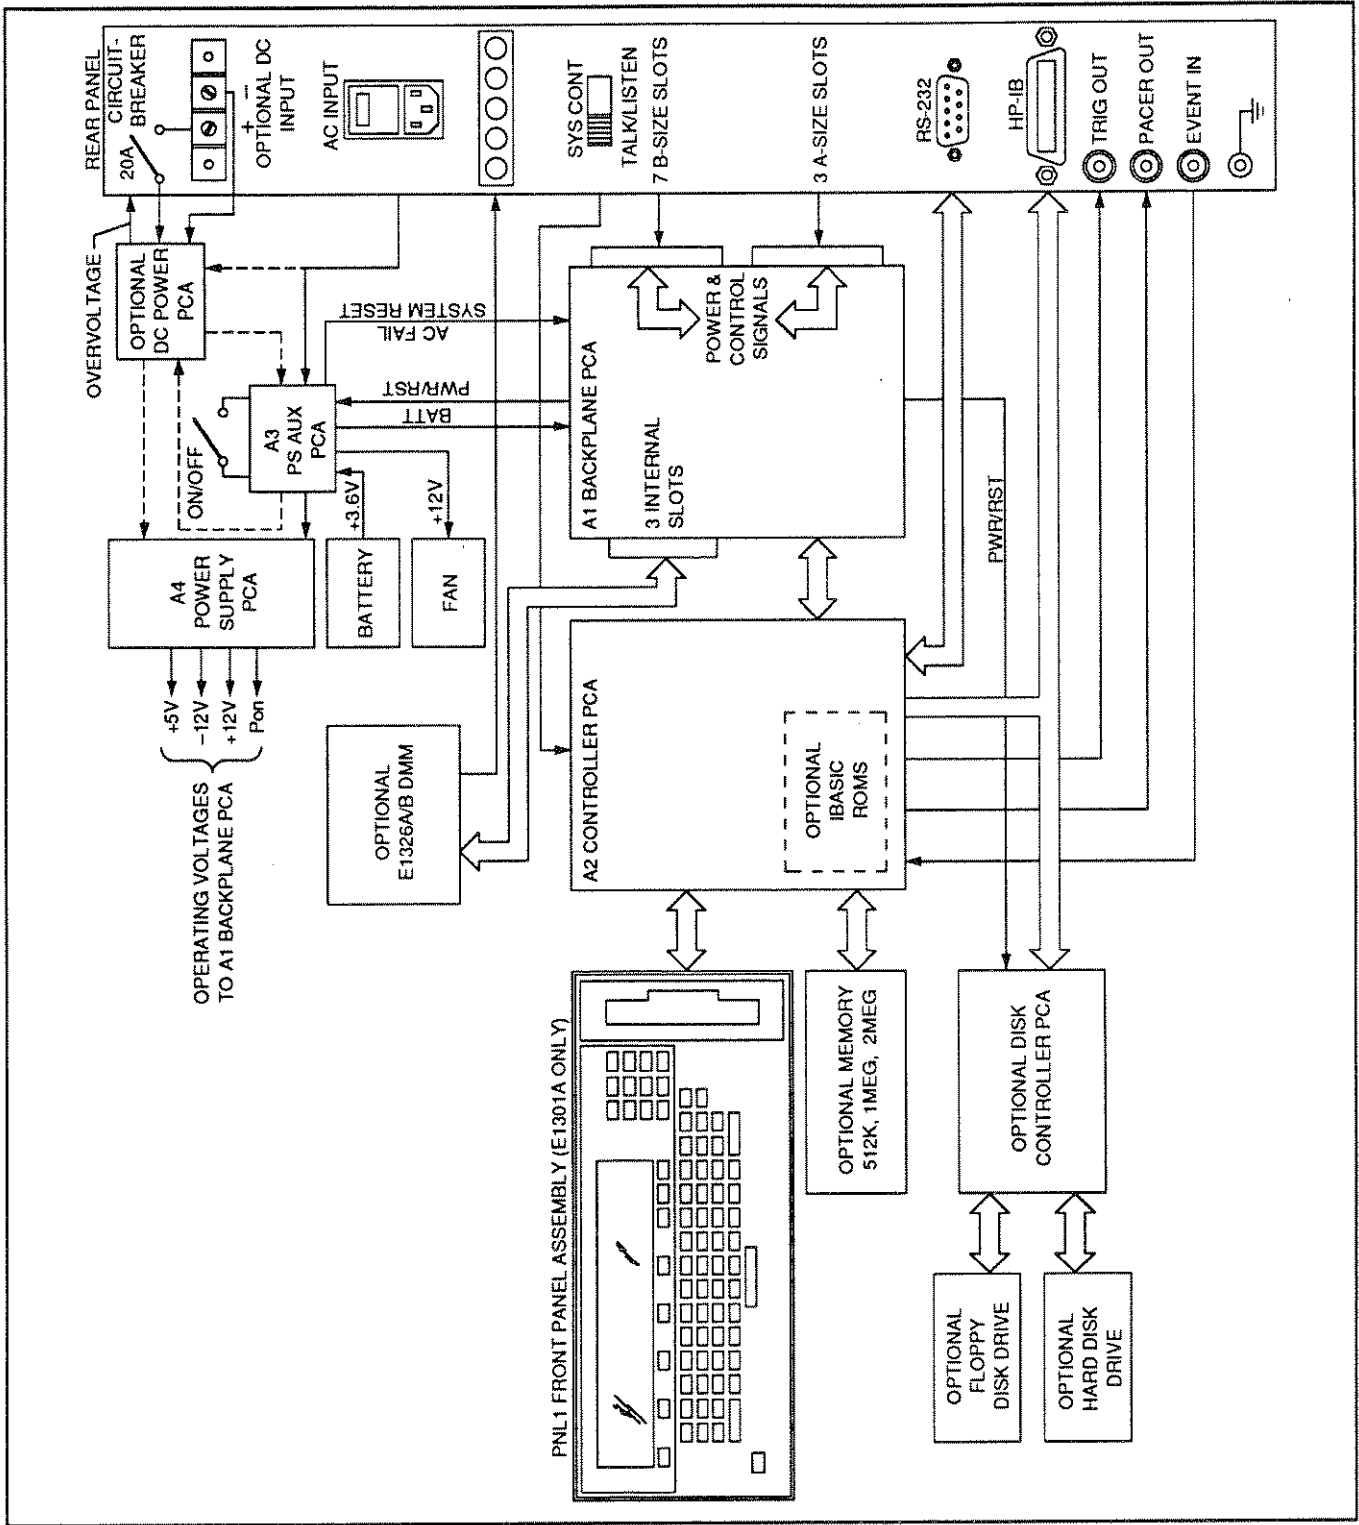

Figure 8-1. HP E1300A/E1301A Mainframes Block Diagram
General The mainframe has six major assemblies, each of which perform a specific task. See Figure 8-1 for a block diagram of the mainframe.
In addition to the six major assemblies within the mainframe, a number of electrical options are also available. Optional assemblies are illustrated in Figure 8-1.
- Wiring diagram and assembly locator (see Figure 8-1).